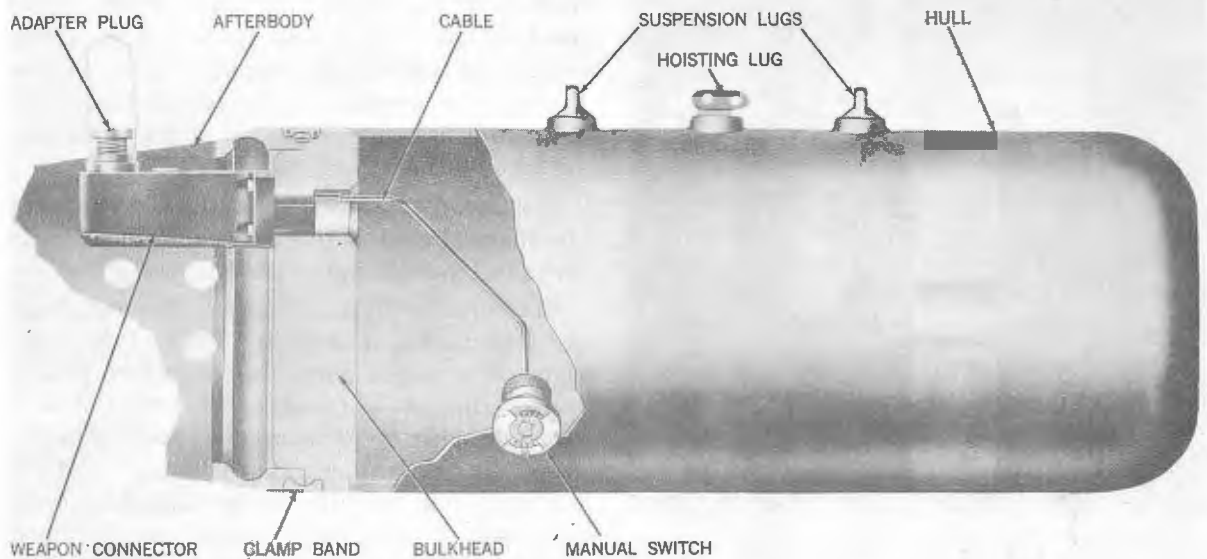

Figure 11-54.—Cutaway of Assembled Practice Bomb.
**Hull.** The hull assembly, figure 11-54, is a blunt-nosed steel cylinder,  $45\frac{3}{8}$  inches long 18 inches in diameter. A steel bulkhead is welded into the after-end of the hull as a closure and provides a mount for the weapon connector. The practice bomb suspended in a bomb rack by means of two suspension lugs, dwg 1252628, threaded into the top of the hull. The bomb is hoisted into the aircraft by means of a hoisting lug, dwg 1636182, threaded into the top of the hull midway between two suspension lugs. The manual switch is mounted flush with the side of the hull in an opening  $2\frac{1}{2}$  inches in diameter with a flanged mounting seat. The switch is properly oriented by an aligning
**GENERAL.** The weapon response simulator assembly consists of two major components: a manual switch and a weapon connector, figure 11-54. Although the manual switch of the practice bomb is only a single component, it simulates the functions of two components of the service bomb: Manual Safety Switch Mk 45 Mod 0 and Rotary Switch Control Mk 11 Mod 0. Externally the manual switch of the practice bomb resem-
A cable, dwg 1541079, electrically connects the manual switch to the weapon connector and fault switch, figure 11-54.